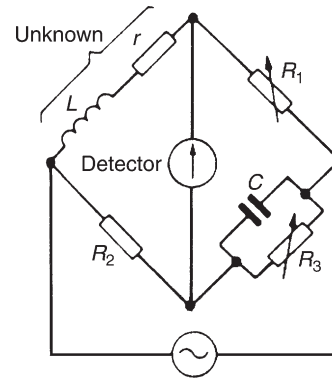

Figure 10.35
A Maxwell-Wien bridge for measuring the inductance  $L$  and resistance  $r$  of an inductor is shown in Fig. 10.35.
**Problem 20.** For the a.c. bridge shown in Fig. 10.35 determine the values of the inductance and resistance of the coil when  $R_1 = R_2 = 400 \Omega$ ,  $R_3 = 5 \text{ k}\Omega$  and  $C = 7.5 \mu\text{F}$